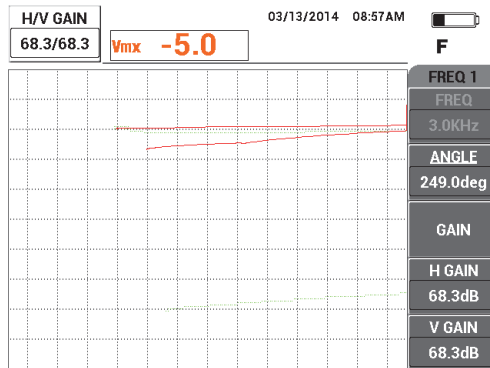

Figure 5-105 Adjusting the gain for frequency 1
8. Press the GAIN key (**dB**), and then increase the frequency 1 gain until the frequency 1 signal at position 2 is at 20 % of the screen height (see Figure 5-105 on page 201).